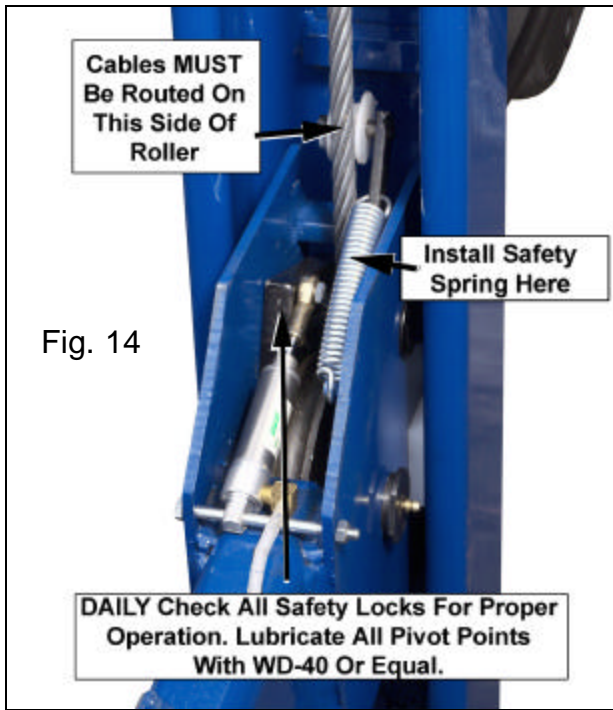

Fig. 14
1. Install the **SLACK SAFETY LOCK SPRINGS** on the **REAR CROSS TUBE** as shown. Make sure spring ends are secure at both ends. (See Fig. 14)